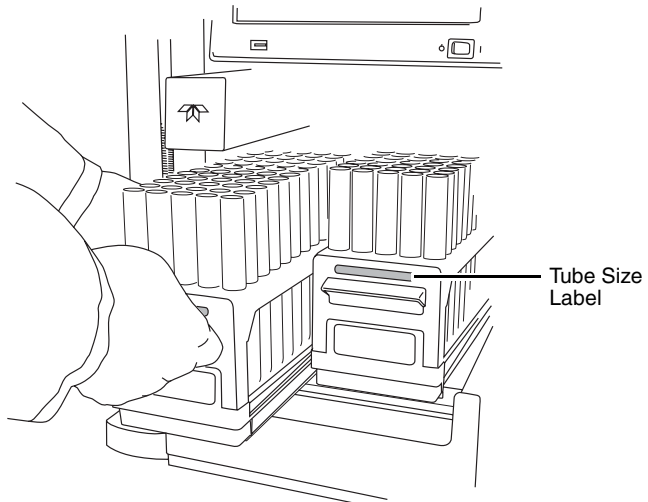

Figure 2-7 Inserting the collection tube rack
2. While holding the rack with the tube size label visible (Figure 2-7), insert the racks into the system. Slide the rack in until you feel it drop into its seated position.